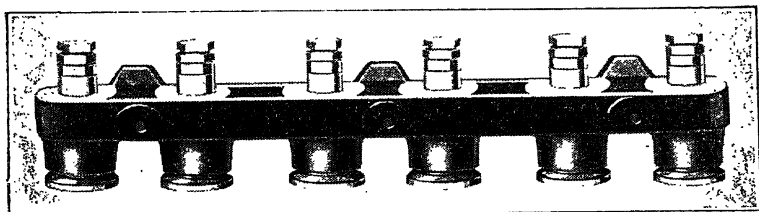

Fig. 5. Mushroom Valve Lifters in Guides
**Valve Lifters.** Valve lifters are also termed cam followers. The lower surfaces of these rest upon the cam. Valve lifters are carried in valve-lifter guides, which, as a rule, are machined up separate and apart from the crankcase although this is not always true. Fig. 5 shows one method of fastening valve-lifter guides to crankcase, two of these being held to the crankcase by means of stud bolts.